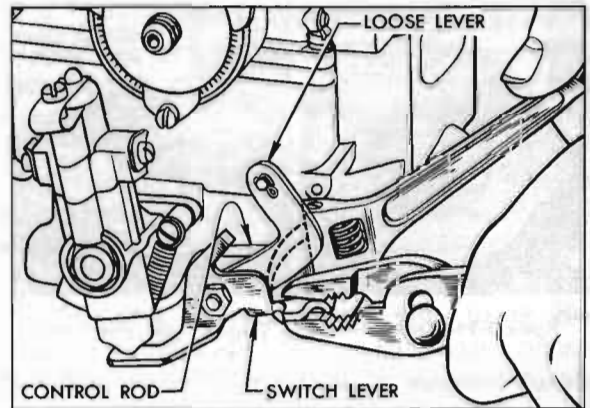

Figure 3-97—Adjustment of Secondary Throttle Linkage
3. Hold the switch lever by applying a suitable wrench to the flat surface below the loose lever, then bend the curved end of switch lever up or down with pliers as required to obtain the results specified in step 1. See figure 3-97. **CAUTION:** Do not place torque on the throttle shaft.